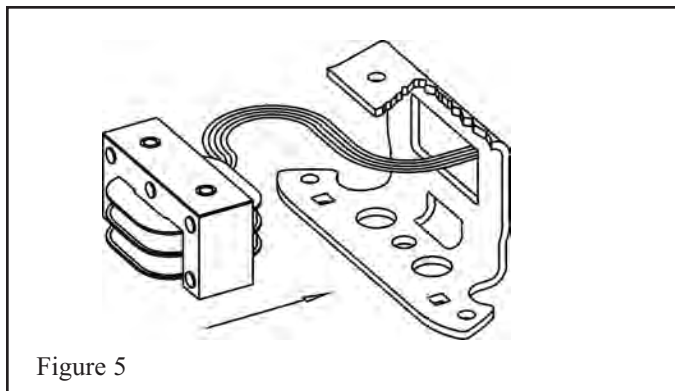

Figure 5
4. Replace shock mount and magnet, feeding coil wires through hole in back of bracket (25B) as shown in Fig. 5. Tighten mounting screws with 55 to 60 lb. in. torque.